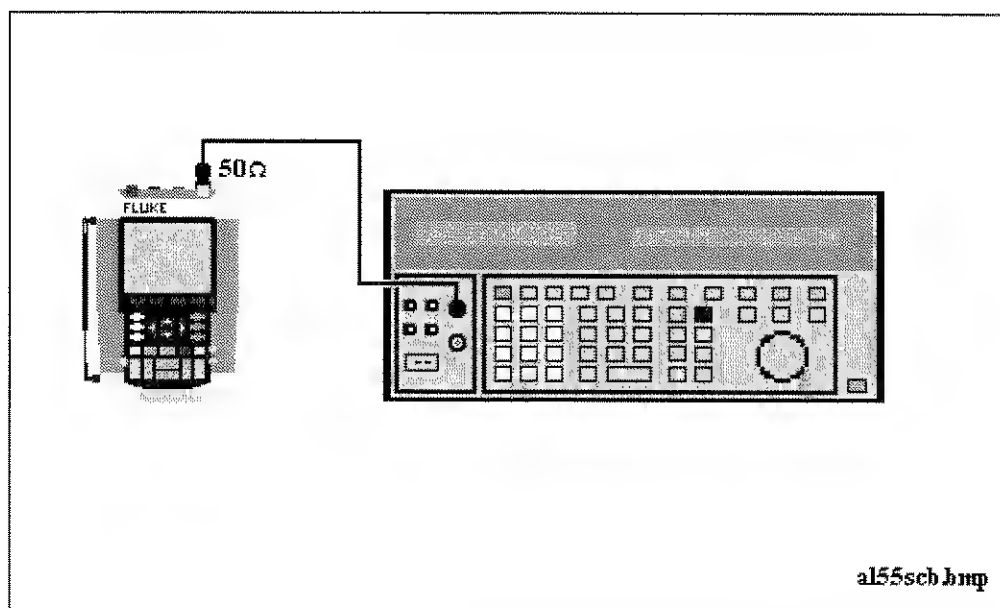

Figure 5-4. 5500A SCOPE Output to Test Tool Input B
2. Connect the test tool to the 5500A as shown in Figure 5-4.